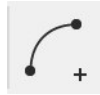

Figure 4-63 An arc of two points
1. Select the Two-Point Arc tool from the Sketch toolkit (Figure 4-63).